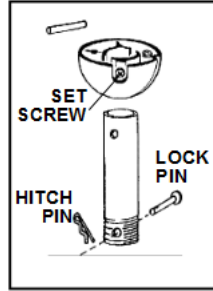

FIG. 7
Step 3. Remove downrod hanger ball by loosening set screw, removing the cross pin, and sliding ball off rod. Remove the hitch pin and lock pin. (Fig. 7)